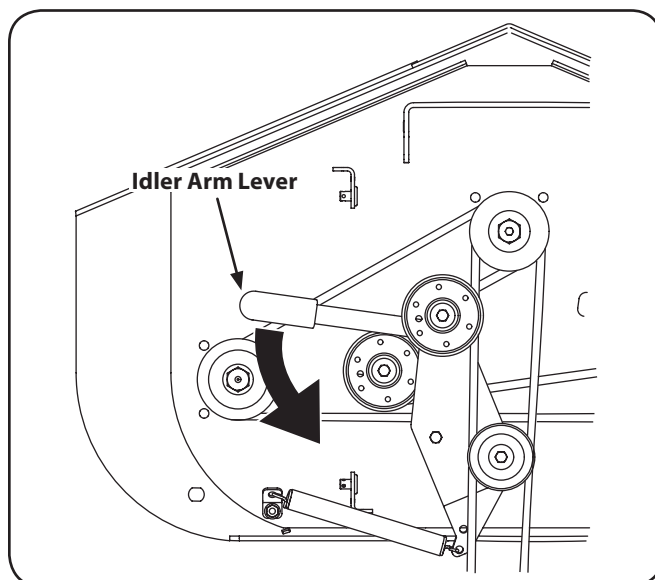

Figure 7-2
3. Remove tension off the PTO belt by moving the belt tensioning rod. See Fig. 7-2.
4. Remove tension of the PTO belt by moving the belt tensioning rod. See Fig. 7-2. Loosen the belt retaining bolt.